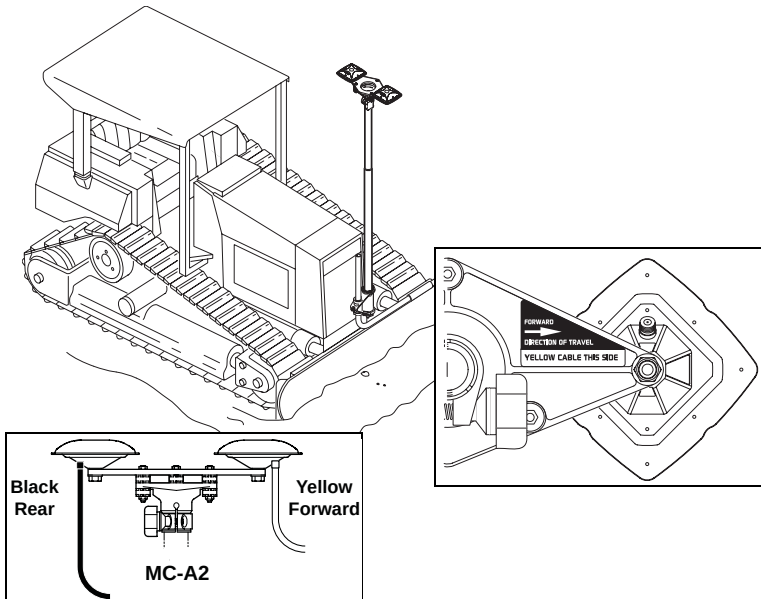

Figure 6-1. Mount Dual Antenna to GPS Vibration Pole
2. Attach the MC-A2 antenna to the GPS vibration pole. Orient the dual antenna with the label pointing forward (Figure 6-1).
3. Connect the MC-A2 antenna cables to the antenna (Figure 6-1) and then to the antenna cable connector on the machine.